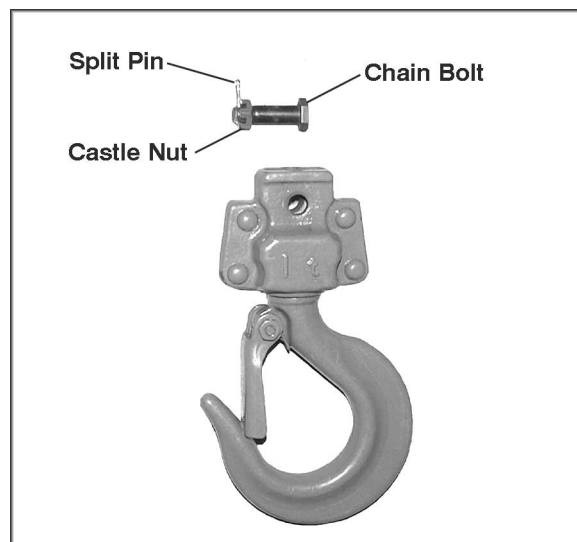

Figure 11
1. Remove the split pin from the lower hook. See Figure 11.